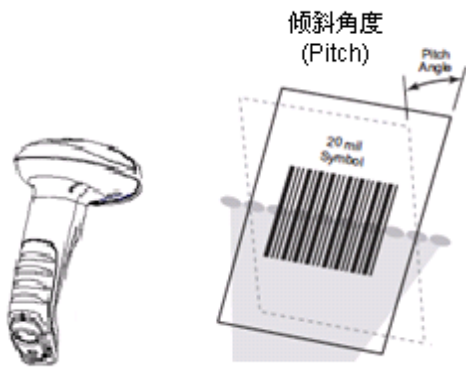

Fig. 1-14
- ◇ Pitch :  $\pm 55^\circ$ ,  $0^\circ$  Roll and  $0^\circ$  Skew (Fig. 1-14)